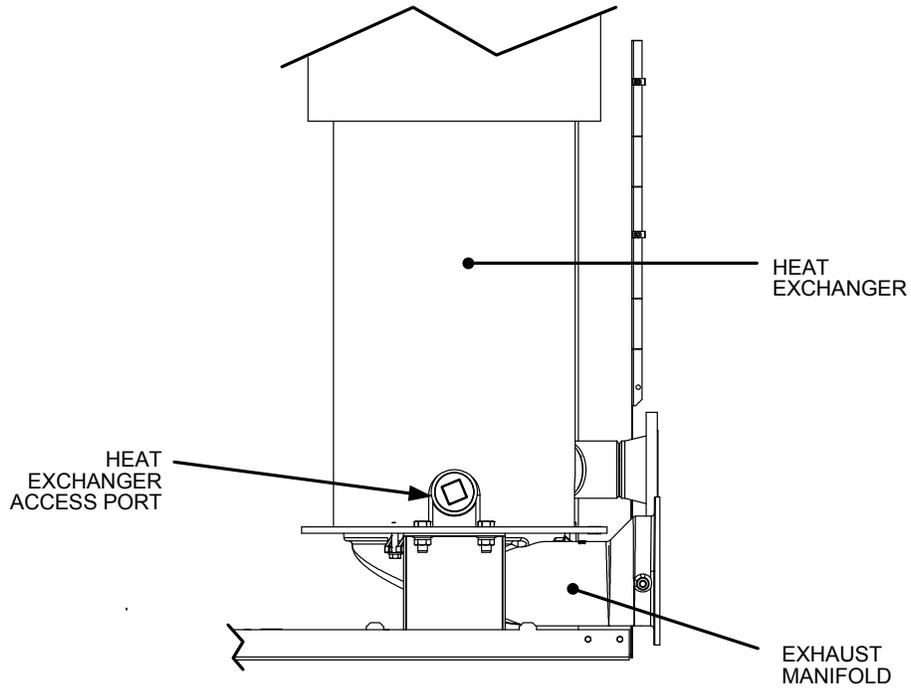

Figure 3. Benchmark 2.0 - Partial Right Side View
5. After the heat exchanger has been drained, remove the 2-1/2 inch access port on the right side of the heat exchanger as shown in Figure 3.